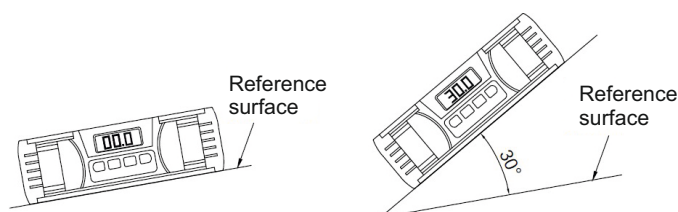

Fig. 5
- » Move the instrument to the other surface, the reading is the angle between the two surfaces (Fig. 5).